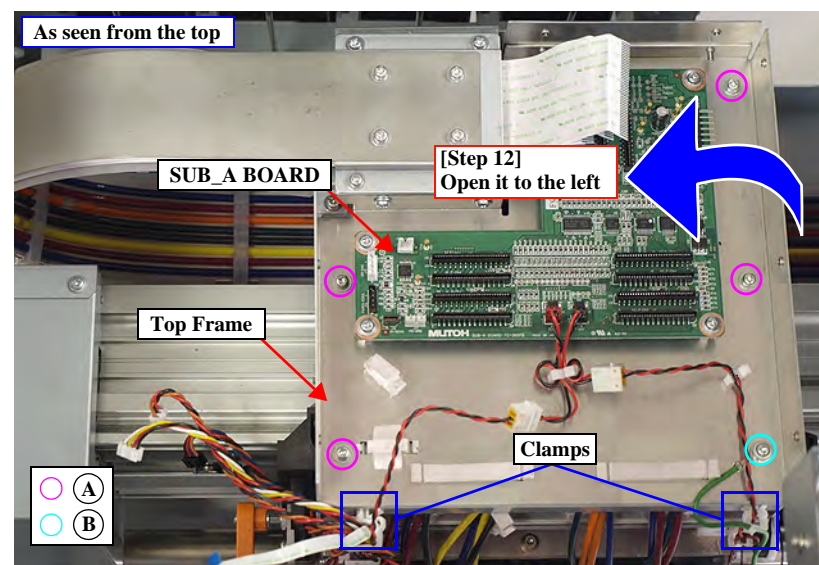

Figure 4-91. Removing the screws on the Top Frame
12. Move the Carriage to the left end and open the Top Frame with SUB_A BOARD to the left. See Figure 4-91.